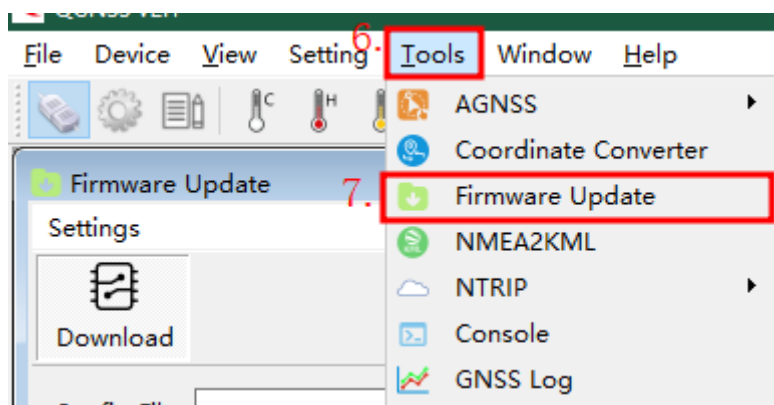

Figure 33: Firmware Download
Step 6: Click “Tools” as shown in Figure 33: Firmware Download.
Step 7: Choose “Firmware Download” in the drop-down menu of “Tools”, as shown in Figure 33: Firmware Download.